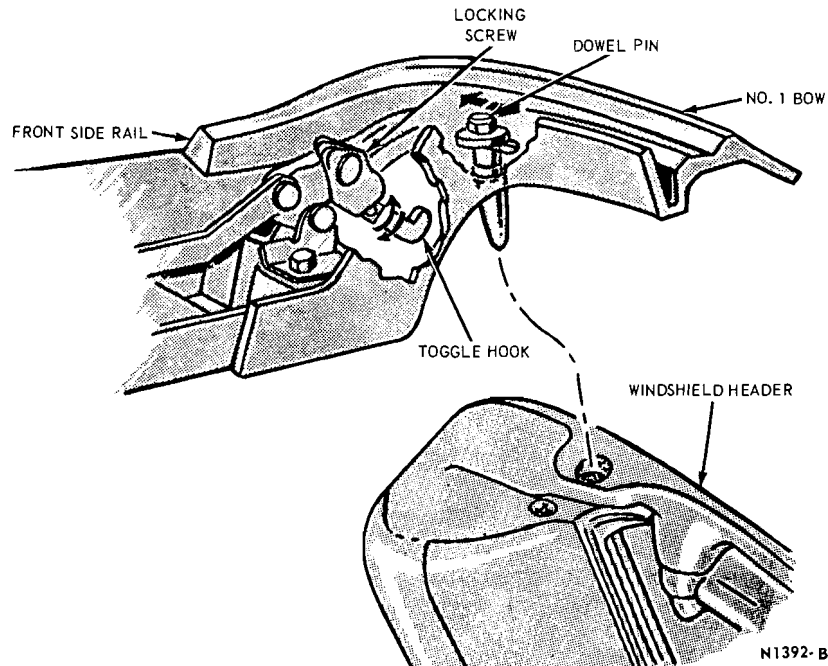

FIG. 5—Toggle Clamp Hook and Dowel Adjustment—Mustang
2. Release the toggle clamps (Fig. 5), loosen the Allen screw, and thread the toggle hook in or out until adequate sealing pressure is applied at the header weatherstrip. Excessive tightening of the toggle hooks will distort the No. 1 bow and cause poor weatherstrip sealing. Tighten the Allen screw after adjusting the clamp.
dowel pin retaining nut (Fig. 5) and move the dowel pins inboard or outboard. Then, tighten the dowel retaining nut.